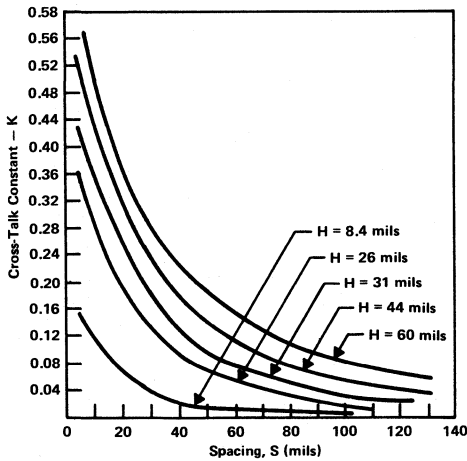

Figure 48. Line Spacing Versus Cross-Talk Constant
Cross talk on a printed circuit board is also a function of the mutual reactances and the line parameters which govern the line impedance. A microstrip line and a strip line are, by definition, conductors placed relatively close to a ground plane. Therefore, they have at least one inherent property which tends to reduce cross talk. In addition, the thickness (H) of the dielectric and the spacing (S) of the conductors can be implemented selectively to reduce the amount of possible cross talk. The effects of these two dimensions on cross talk have been evaluated and are shown graphically in Figure 48. The data shown can be used to estimate the maximum crosstalk which will be encountered under the most unfavorable conditions.